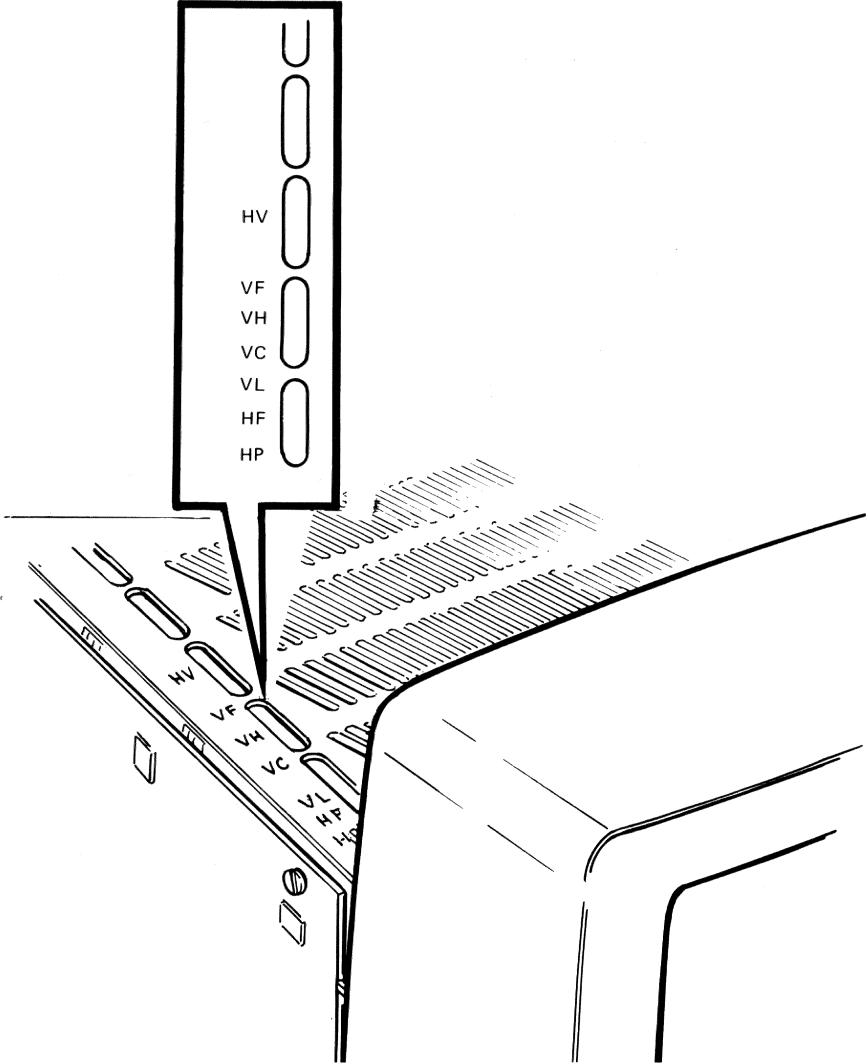

Figure 6-36 VR260 Monitor Adjustments (Top)
- d. On the top of the chassis (Figure 6-36), adjust VL (vertical linearity) for vertically uniform squares.